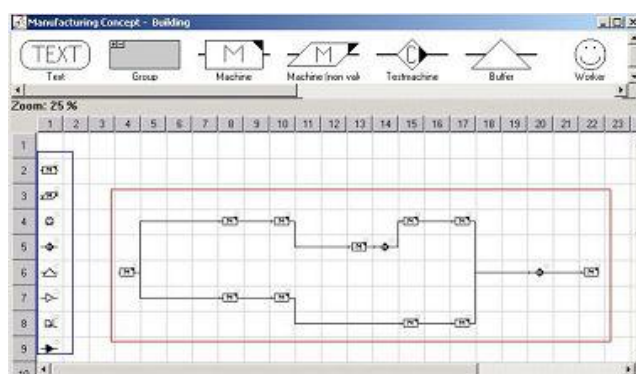

Figure 10: Example – Display of a new Manufacturing Concept
- 6) Click **OK**, once you have established all required relationships between the different plantypes. The new Manufacturing Concept is created and displayed. Please refer to the Figure 10.
The resources displayed in the example of a Manufacturing Concept come from the resource structure and from the Process Graph. The resources from the resource structure are arranged within the blue framed rectangle. The resources in the red framed rectangle correspond to the selected Process Graph display. The connection between the plantypes from the Process Graph and from the Manufacturing Concept establishes a connection between the processes created in the Process Graph and the resources. The Manufacturing Concept is exclusively intended for editing resources. Please refer to the Figure 10.